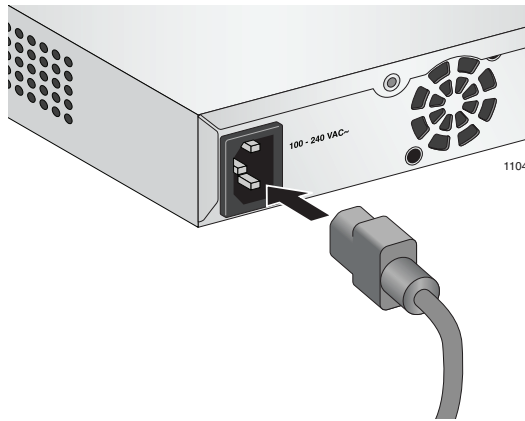

Figure 16. Plugging in the AC Power Cord
1. Plug the power cord into the AC power connector on the back of the switch, as shown in Figure 16.